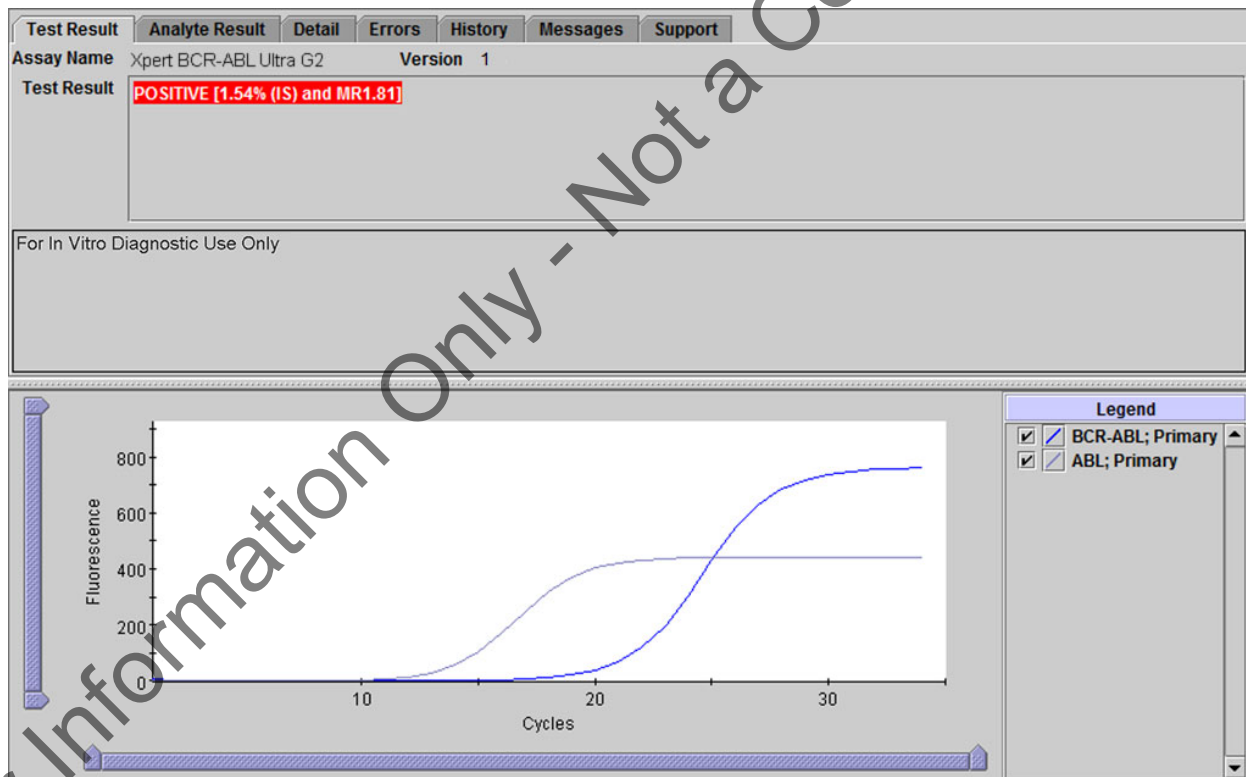
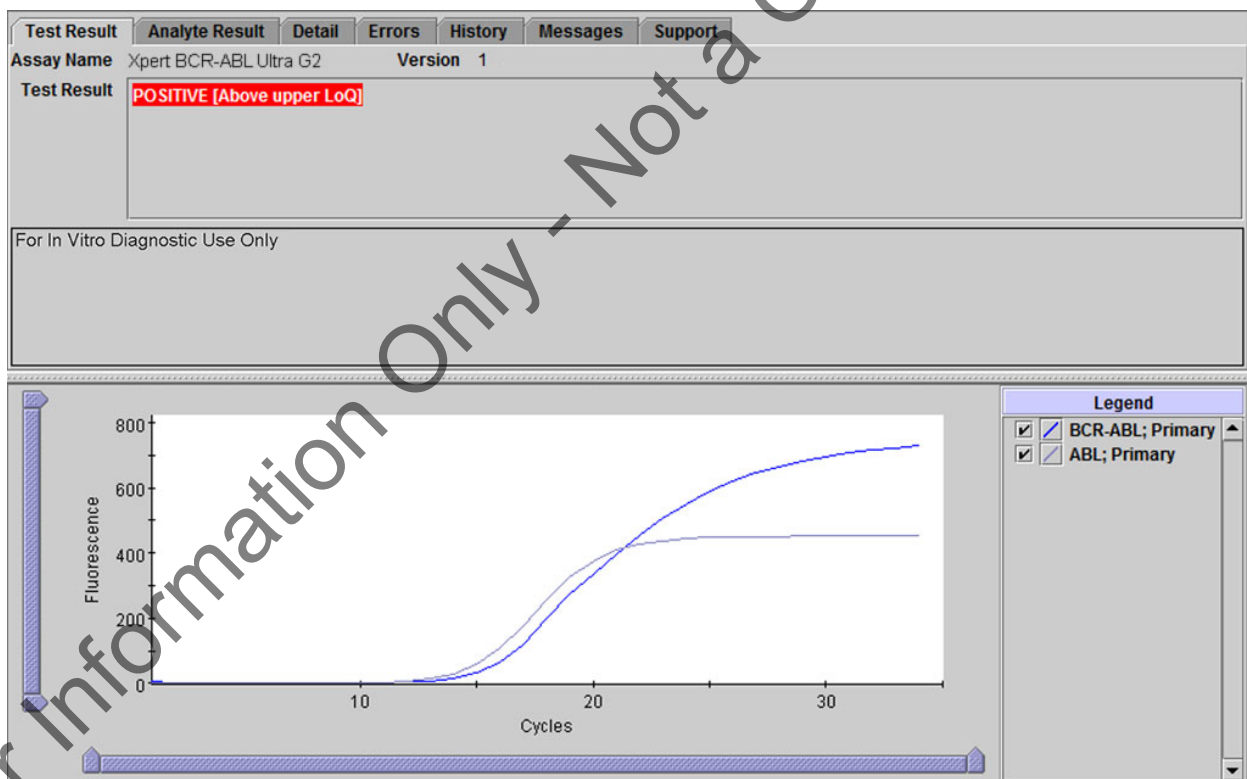
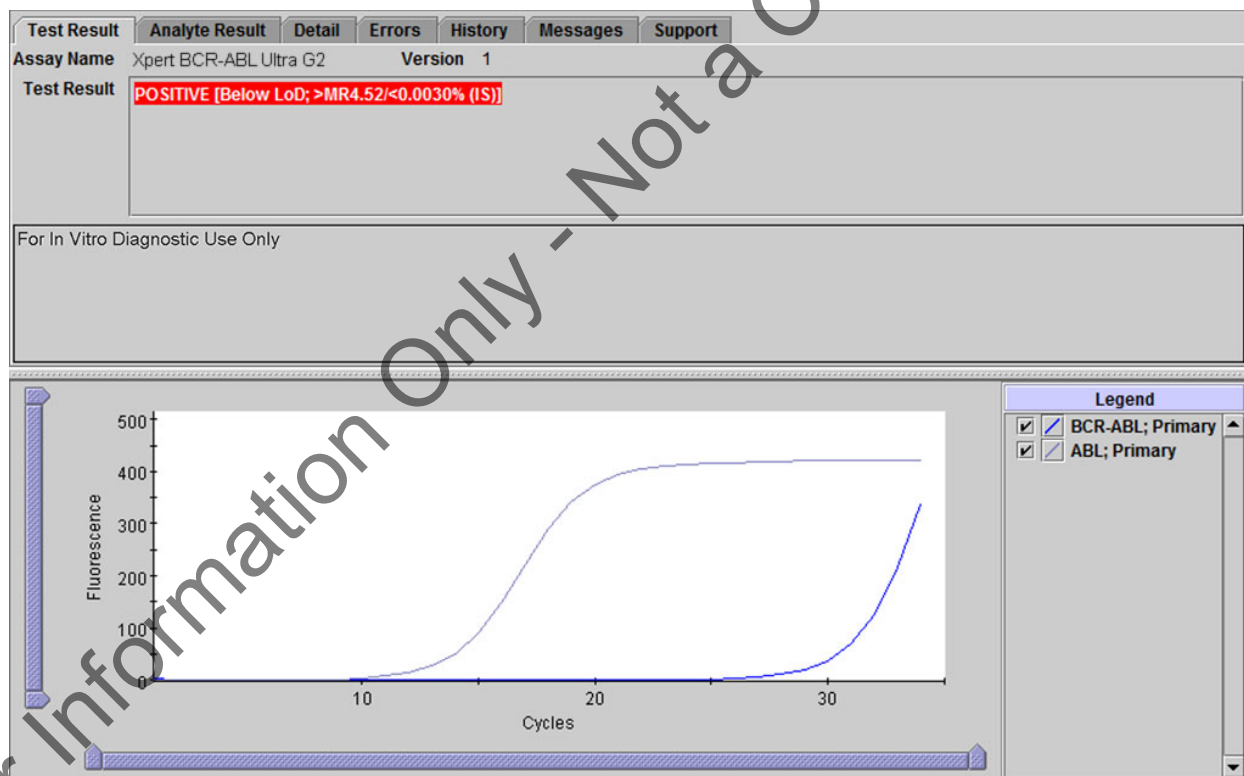

Figure 2. GeneXpert Dx View Results Window: POSITIVE [1.54% (IS) and MR1.81]
Figure 3. GeneXpert Dx View Results Window: POSITIVE [Above upper LoQ]
Figure 4. GeneXpert Dx View Results Window: **POSITIVE [Below LoD; >MR4.52/<0.0030% (IS)]**
| POSITIVE See Figure 2, Figure 3, Figure 4 | BCR-ABL transcript was detected. <ul style="list-style-type: none"> • BCR-ABL POSITIVE– BCR-ABL transcript was detected and has a cycle threshold (Ct) within the valid range and endpoint above the threshold setting. • Possible positive results: <ul style="list-style-type: none"> • POSITIVE [#.##% (IS) and MR#.##]; Figure 2. • POSITIVE [Above upper LoQ]; Figure 3. • POSITIVE [Below LoD; >MR4.52/<0.0030% (IS)]; Figure 4. • ABL PASS – ABL transcript was detected and has a cycle threshold (Ct) within the valid range and endpoint above the threshold setting • When ABL Ct value is below 18, a minimum of 32,000 ABL copy number was present in the reaction.^{17,18} • Probe Check PASS – all probe check results passed. |
Result: **POSITIVE [1.54% (IS) and MR1.81]**. See Figure 2.
Result: **POSITIVE [Above upper LoQ]**. See Figure 3.
Result: **POSITIVE [Below LoD; >MR4.52/<0.0030% (IS)]**. See Figure 4.